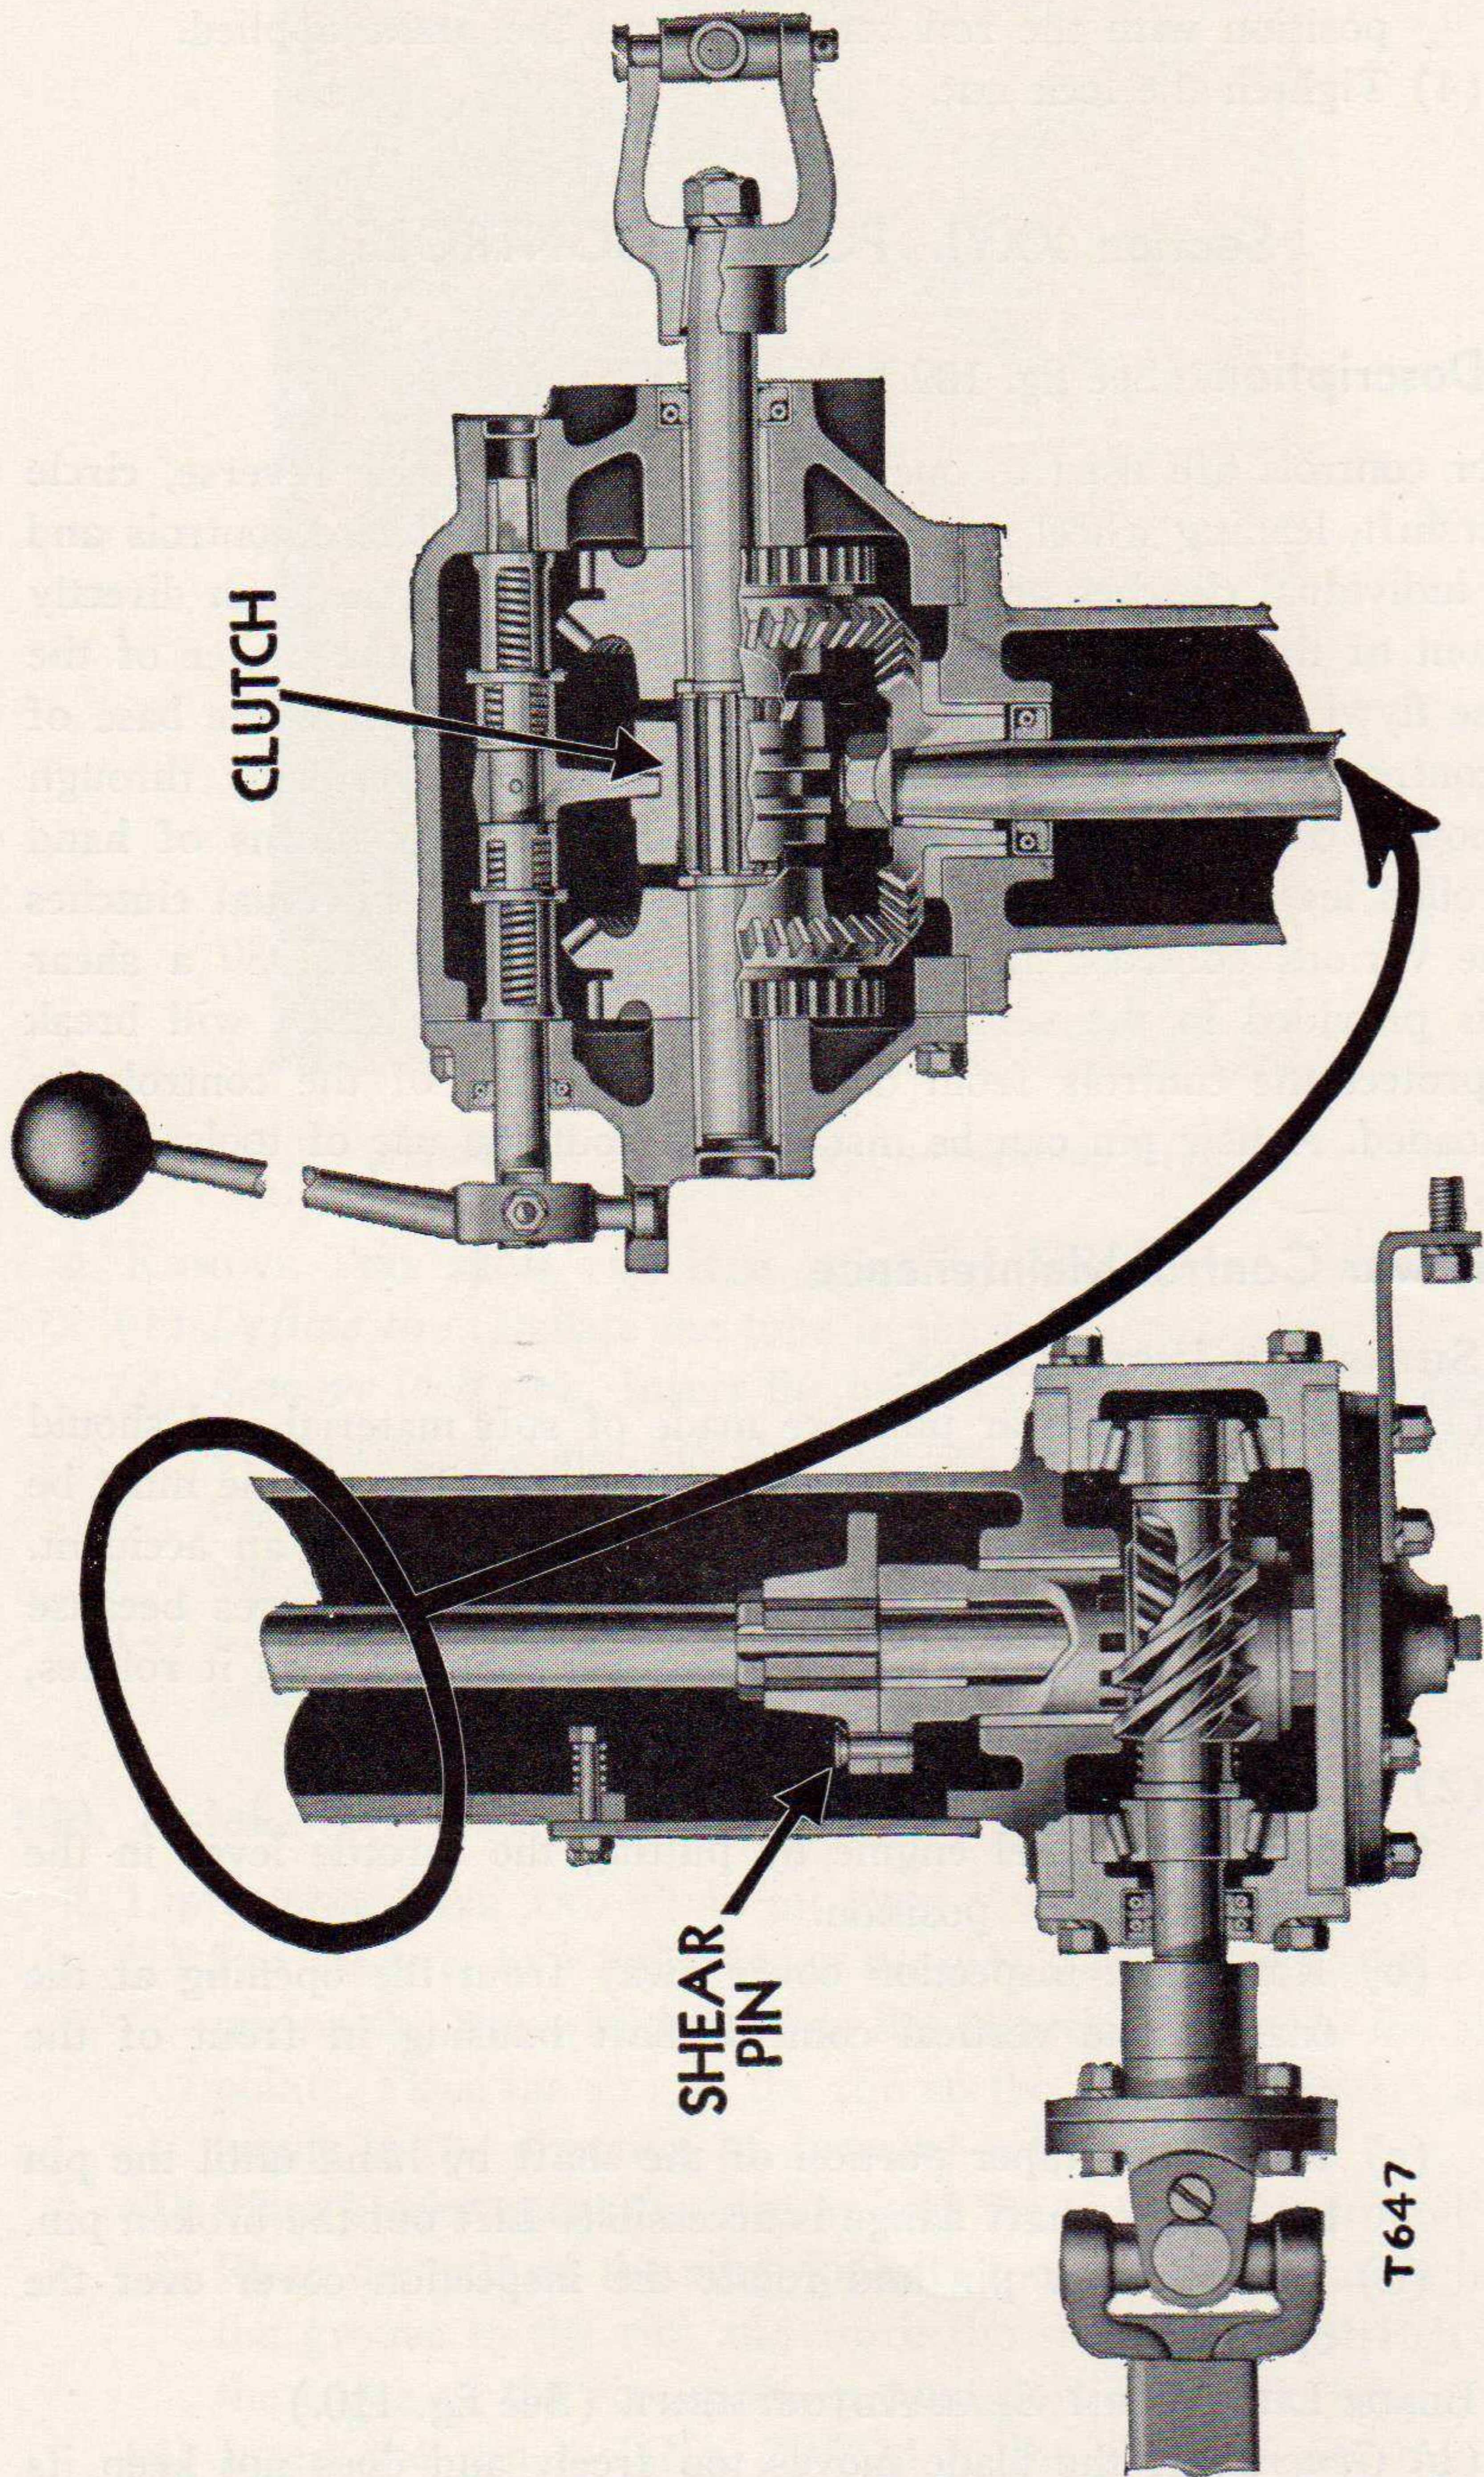

Figure 109. Power control mechanism.
### 89. Description (See fig. 109.)
- (1) *General.* The shear pins are made of soft material and should never be replaced by a harder pin or bolt. The engine must be stopped while installing the shear pin to prevent an accident. It is not necessary to aline holes in the two flanges because the lower flange is made to make the connection as it rotates, with the pin in place in the upper flange.
- (2) *Installation procedure.* (See fig. 109.)